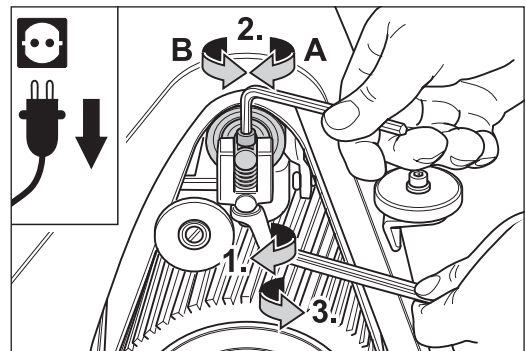

Fig. 72 Adjust the sanding belt tracking at the setting screw of the drive unit (see description on the left).
- 6 If readjustment of the tensioning roller is necessary, release the lock nut at the drive unit (Fig. 72, 1.) and adjust the tensioning roller with the screw (Fig. 72, 2.):
- 7 If the sanding belt tracking is seen to be correct after adjusting once, tighten the lock nut again (Fig. 72, 3.).